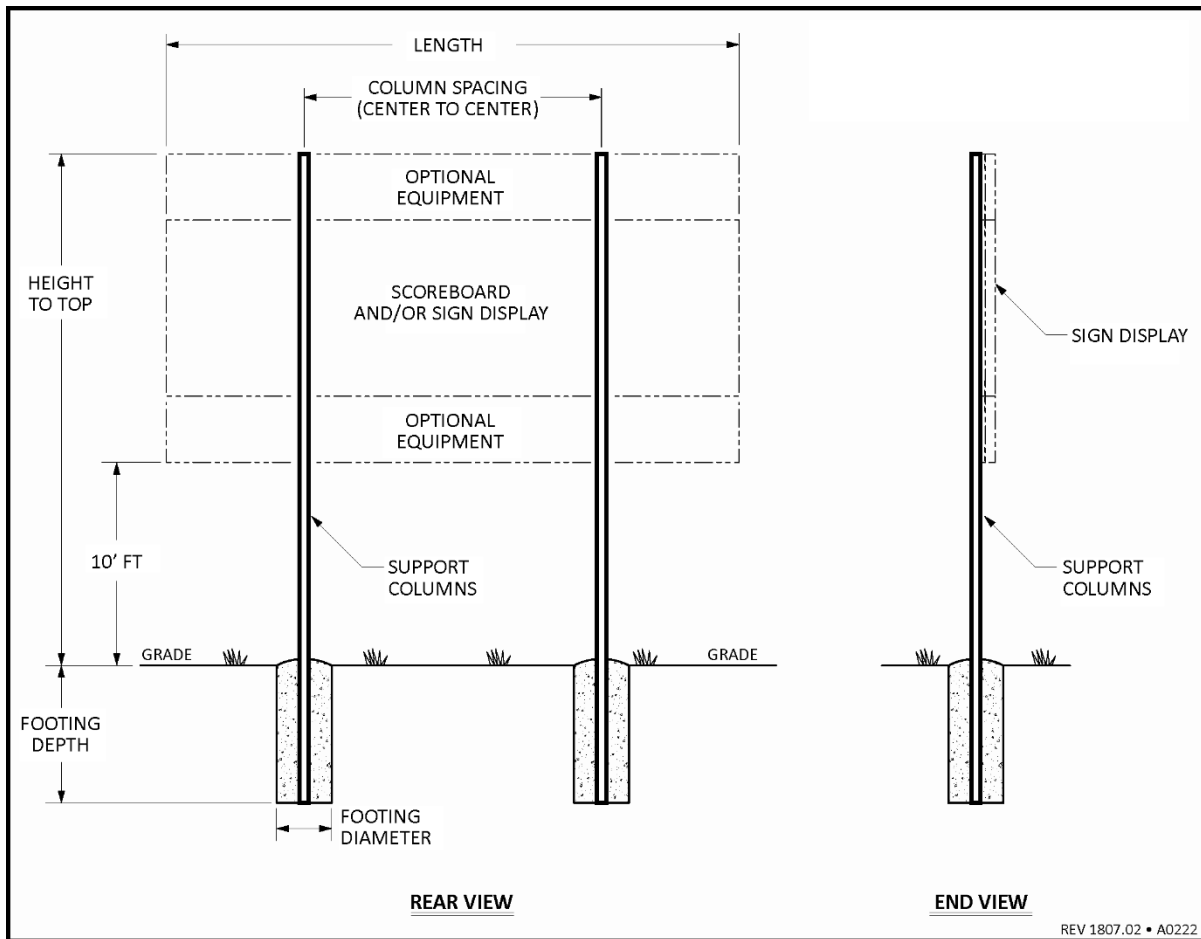

FIGURE 2 — TYPICAL SUPPORT COLUMN STRUCTURE
- The sports display is usually mounted on support columns (Figure 2 below), spaced and sized as shown on